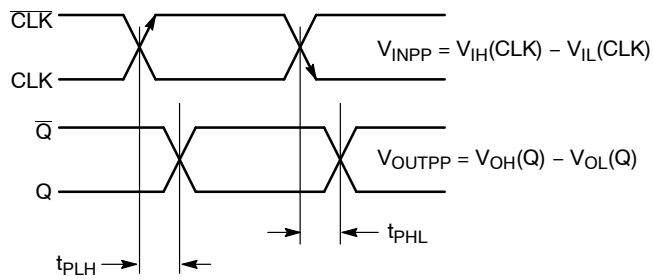

Figure 4. AC Reference Measurement
19. $t_{SKEW} = |t_{PLH} - t_{PHL}|$ for a nominal 50% differential clock input waveform (Figure 4).